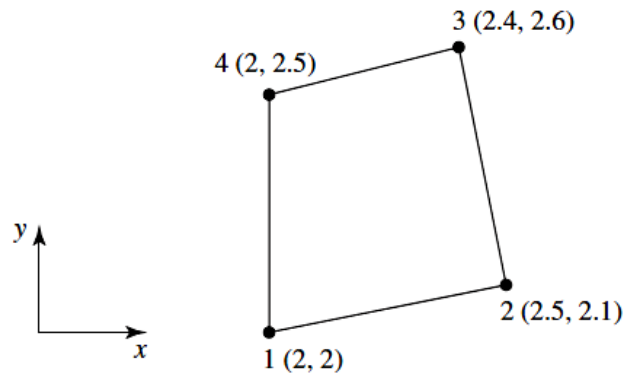

Fig. 4
8. (a) Fig.4 shows a quadrilateral element in global coordinates. Show that the mapping correctly describes the line connecting nodes 2 and 3 and determine the (x, y) coordinates corresponding to $(\xi, \eta) = (0.7, 0.4)$.